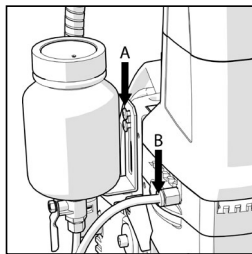

Fig. 3
- The coolant system should be fastened to the machine using the \varnothing 6 mm socket headed screw inserted into the threaded hole located at the top left hand side of the machines carriage. (Fig. 3 a)